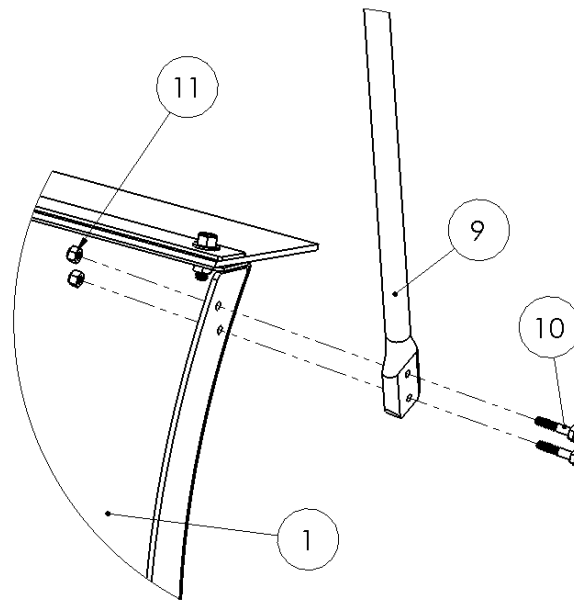

Figure 3
- 3) Install the Flag Markers to the sides of the plow blade as shown in Figure 3